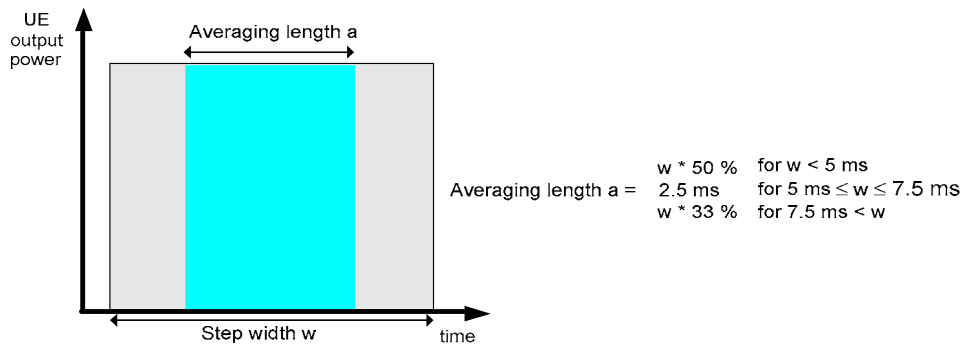

Fig. 8-3 Averaging length
- Step Width* Duration of each TX or RX power step. The step width has an impact on the averaging length for the TX calibration measurement; see Fig. 8-3 on p. 6. The minimum step width of 2 ms corresponds to 3 WCDMA slots.